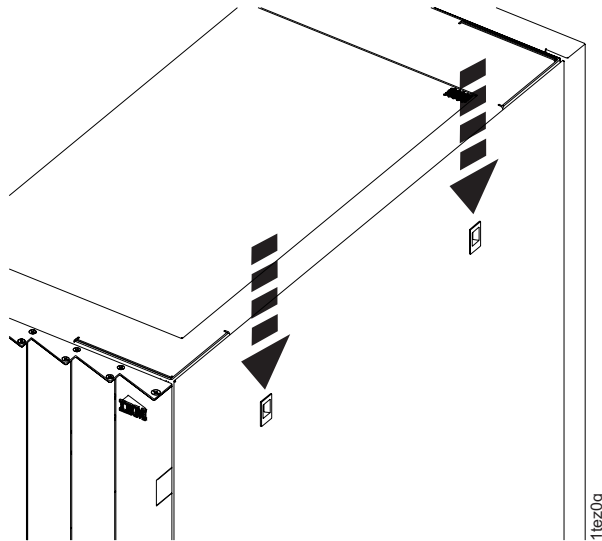
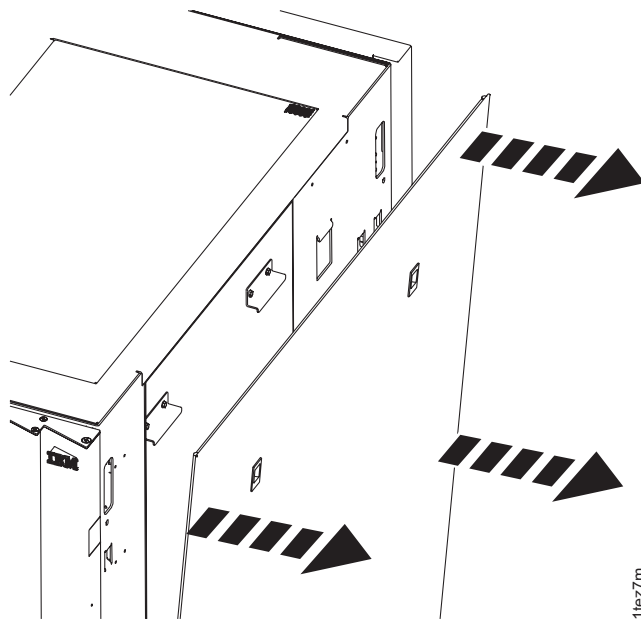

Figure 4. Disengaging the end cover
Figure 5. Removing the end cover
- Older version has two cover retaining brackets as shown in Figure 4 on page 12. Go to the next step.
- Newer version does not have the two cover retaining brackets as shown in Figure 4 on page 12. Go to step 3 on page 13.
2. Remove the old version of the front right end cover from the rack that the new rack will be installed to as shown in Figure 4 on page 12 and Figure 5 on page 12. Pull the cover near the top sides to release it from the top "hook and loop"
- a. Release the two cover retaining brackets (pull them downward). See Figure 4. The cover is still secured to the frame by multiple "hook and loop" fasteners along each side of the cover.
- b. Pull the upper corners of the cover away from the rack to release the upper "hook and loop" fasteners and apply even pressure working your way down the sides. See Figure 5 on page 12.